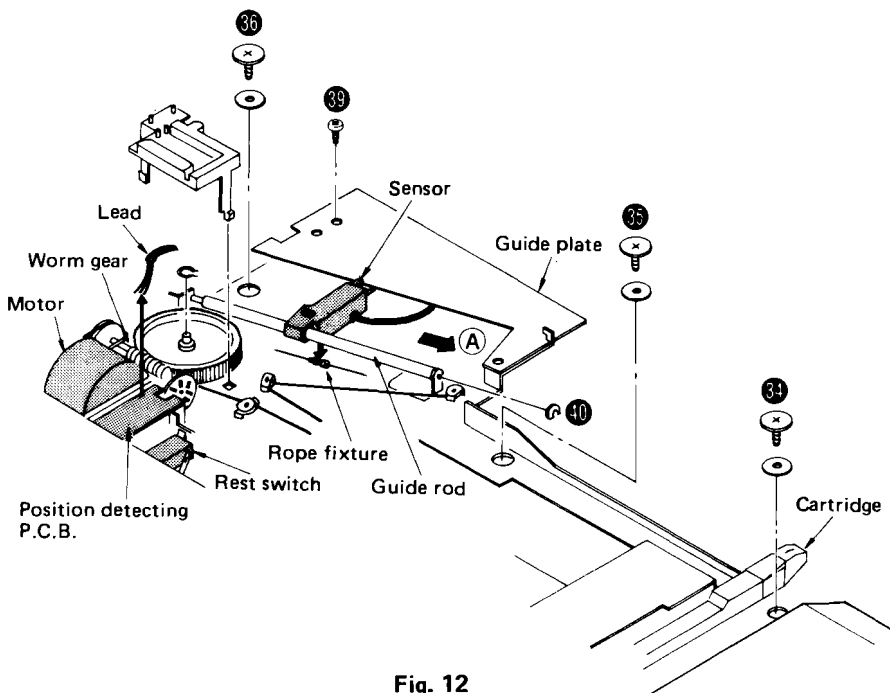

Fig. 12
5. Remove the 3 setscrews (Fig. 12: 34 ~ 36) of the dust cover.
3. Remove the screw of the guide plate. (Fig. 12: 39)
4. Remove the rope fixture of the sensor. (Fig. 12)
5. Remove the guide rod fitting clip 40 and remove the guide rod. (Fig. 12)
6. Pull out the sensor in the direction of the arrow A. (Fig. 12)